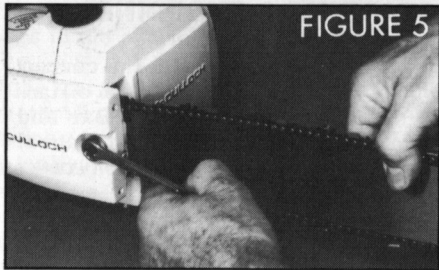

FIGURE 5
3. When tension is correct, tighten the bar mounting nut while still holding the nose of the bar up and then recheck chain tension by pulling it around the bar. Protect your hand from the sharp cutting teeth of the chain. See Figure 5.